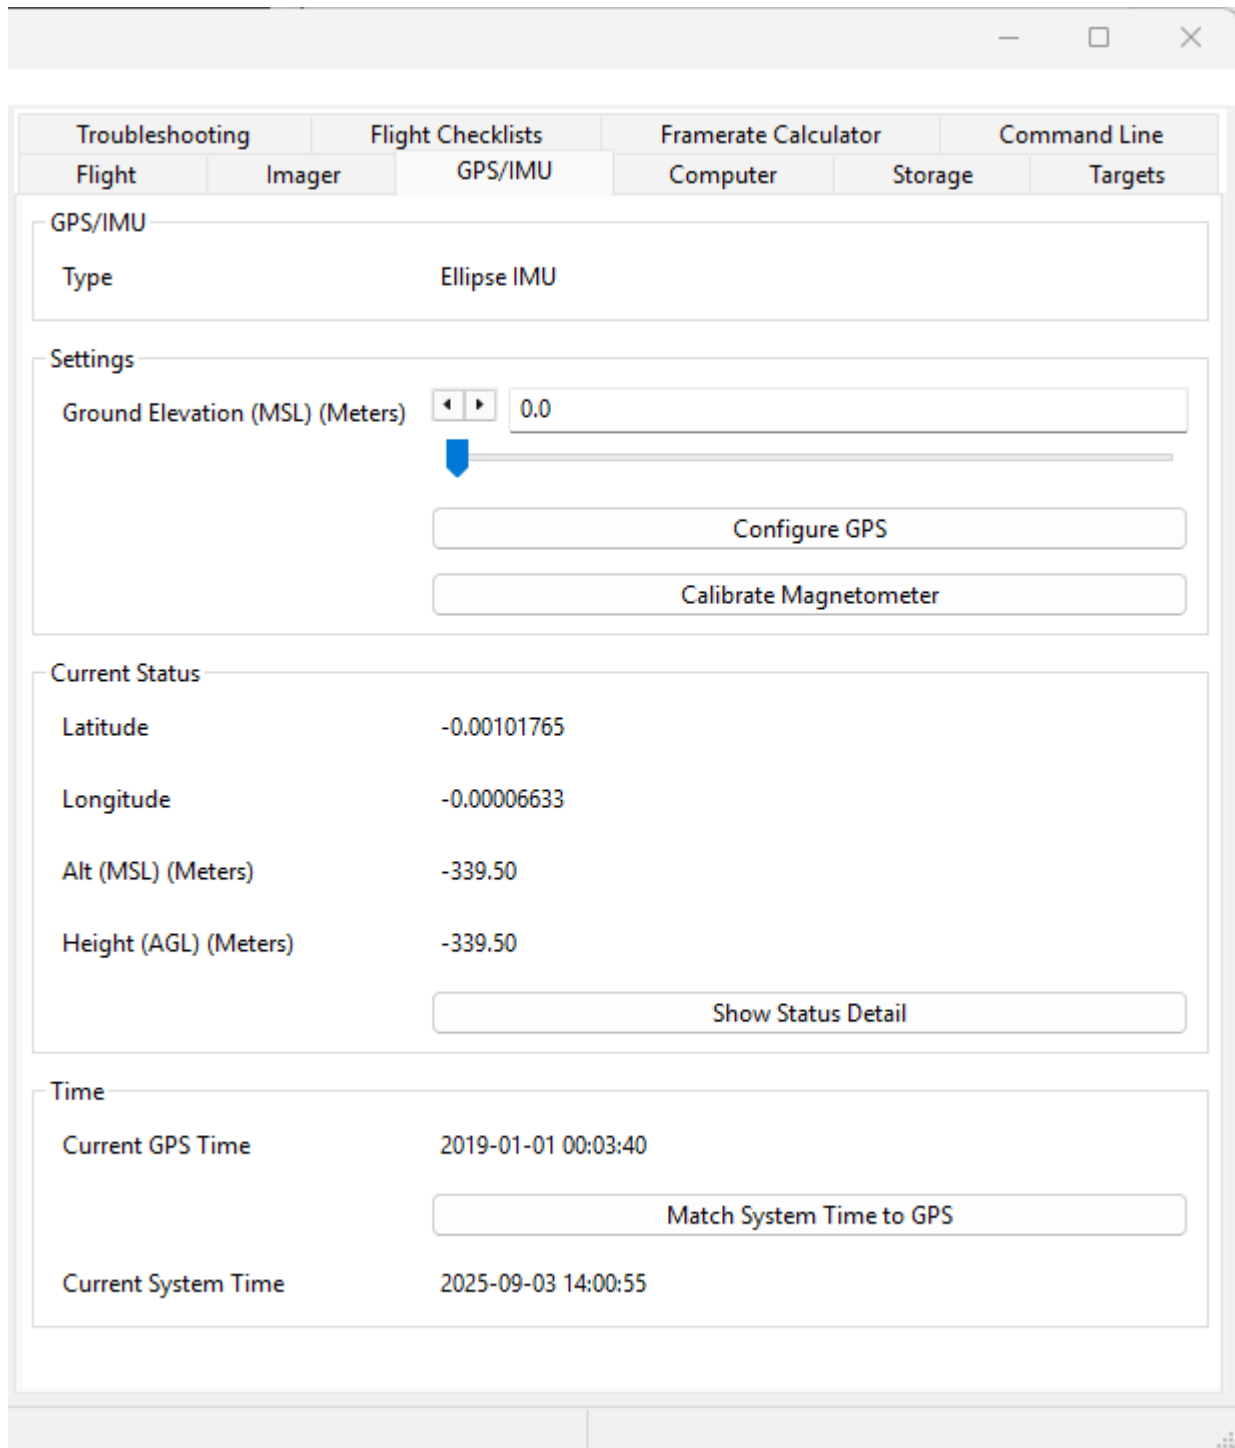
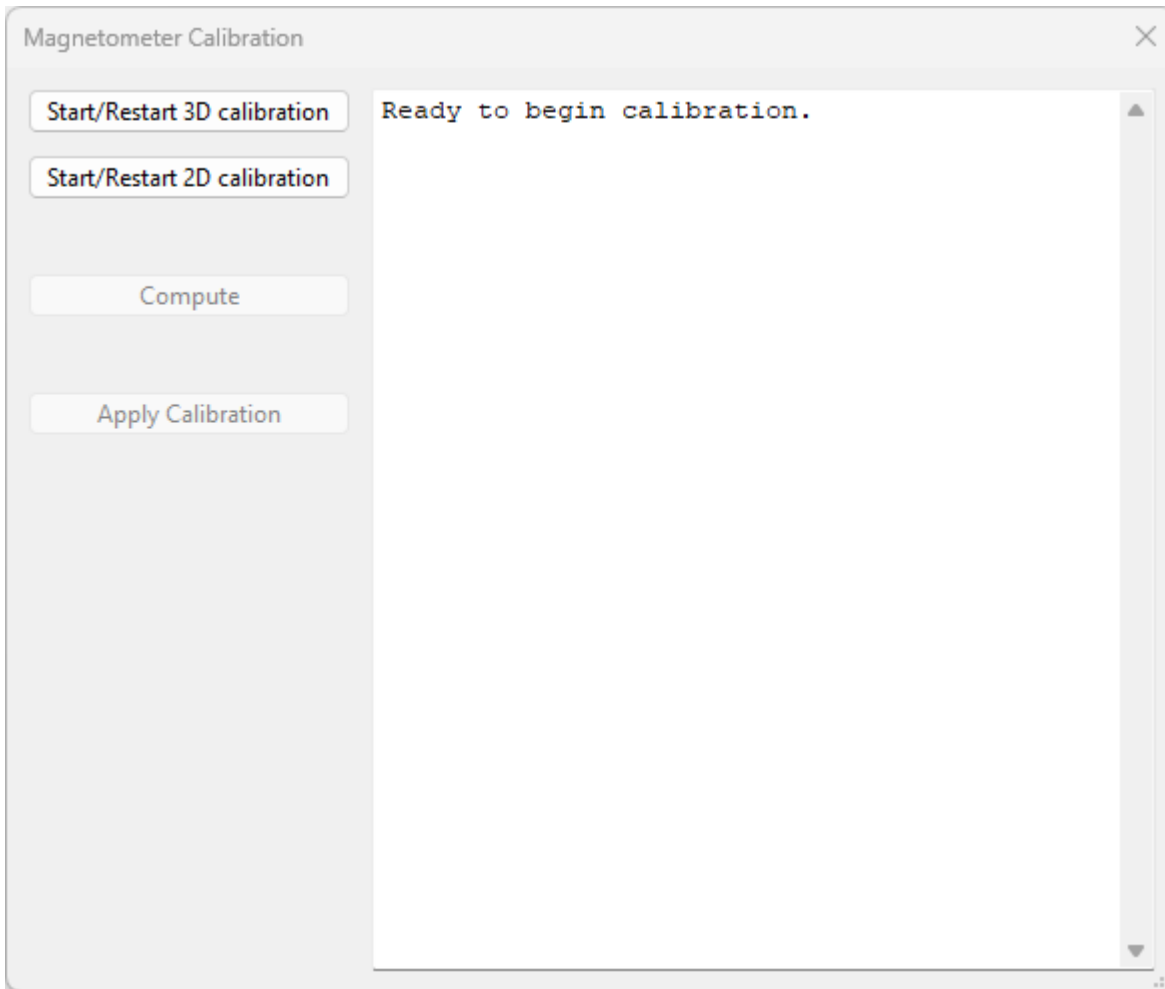

Fig. 3.12: The GPS/IMU Tab
Fig. 3.14: Ellipse Magnetometer Calibration Window
The *GPS/IMU Tab* (Fig. 3.12) allows configuration of the GPS/IMU system and serves as a check to the proper operation.
1. To perform a calibration, first press the *Calibrate Magnetometer* button on the *GPS/IMU Tab* (Fig. 3.12). The Ellipse magnetometer calibration window appears (Fig. 3.14).